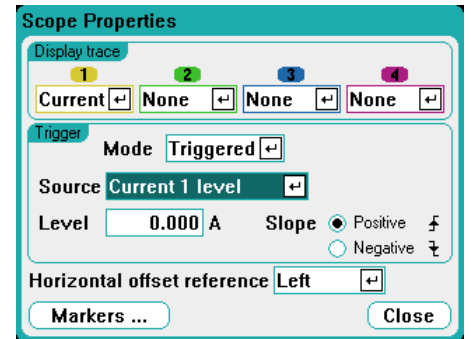

Figure 6 – Scope Properties
3. Press the "Properties" key to bring up the "Scope Properties" screen (see Figure 6).